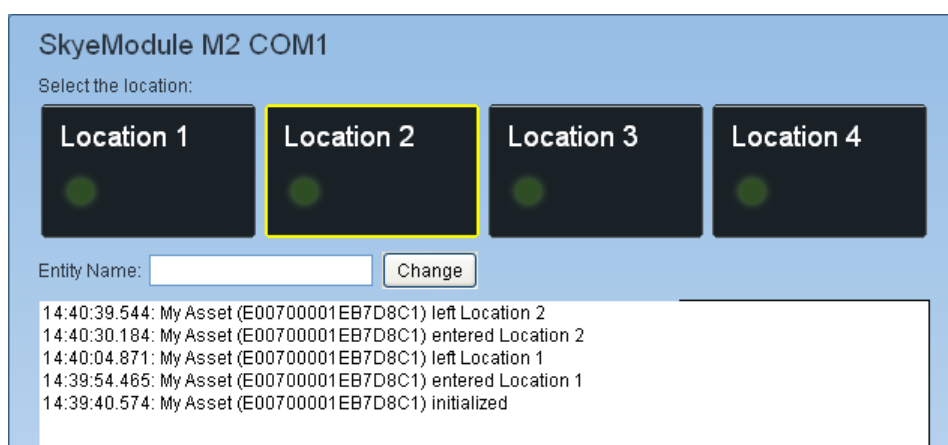

Figure 4-6 Initialized Tag Leaving Location 2
4. Remove the tag from the field. The data area shows that the tag has left the Location 1 (Figure 4-6).